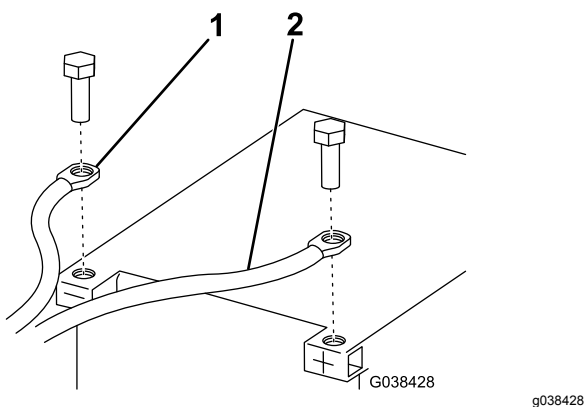

Figure 13
13. Connect the black power/ground cable to the negative (-) battery terminal (Figure 13).
14. Connect the red power/ground cable to the positive (+) battery terminal (Figure 13).